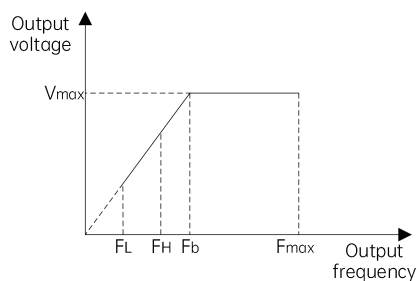

Fig. 7-6 Frequency limit parameter definition
The maximum output frequency is the highest frequency allowed by the drive, such as Fmax in Fig. 7-6;
The upper limit frequency is the highest frequency allowed in operation set by the user, such as FH in Fig. 7-6;
The lower limit frequency is the lowest frequency allowed in operation set by the user, such as FL in Fig. 7-6;
Fb in Fig. 7-6 is the basic operating frequency, defined as the minimum corresponding output frequency when the drive outputs the highest voltage in the V/F mode.
- (1) The maximum output frequency, upper limit frequency and lower limit frequency should be carefully set according to the actual nameplate parameters of the controlled motor and the needs of the operating conditions.
- (2) The limit range of the upper and lower frequency has no effect on the JOG operation, but it will affect the auto-tuning of the motor (parameter identification).
- (3) In addition to the upper limit frequency and lower limit frequency, the output frequency of the drive during operation is also limited by the startup frequency, start frequency of DC braking at stop, skip frequency and other parameters.
- (4) Fig. 7-6 shows the relationship between the maximum output frequency, upper limit frequency, and lower limit frequency. Note the value ranges during setting.
- (5) The upper and lower frequency limits are used to limit the actual output frequency to the motor. If the frequency reference is higher than the upper limit frequency, the device will run at the upper limit frequency; if the frequency reference is lower than the lower limit frequency, the device will run at the lower limit frequency; and if the frequency reference is lower than the startup frequency, the device will run at zero frequency.